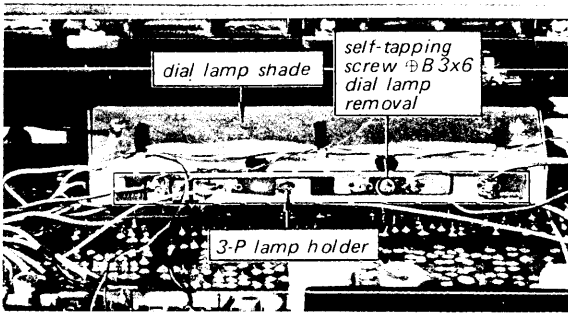

Fig. 2-13. Dial lamp replacement
1. Remove the one self-tapping screw as illustrated in Fig. 2-13, and then install the replacement lamp.